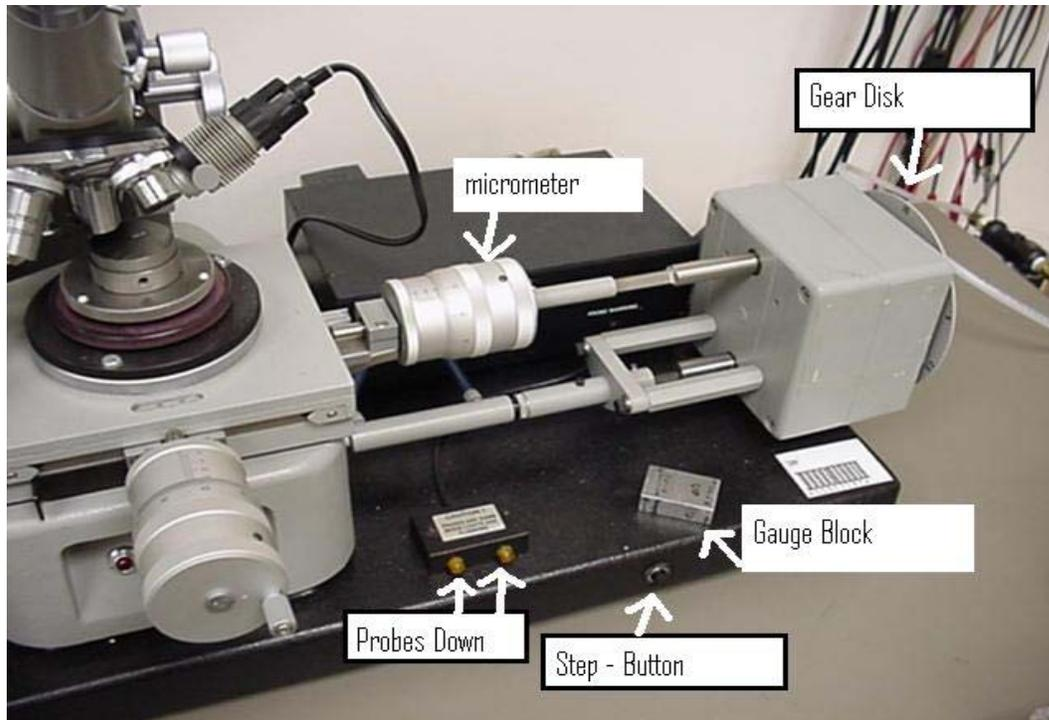

Fig. 1: SSM130 Spreading Resistance Measurement System.
1. Switch on the power-strip of the SSM-130. Check the air pressure gauge. On the front of the equipment are two small orange lights (see Fig. 1). These lights are blinking if the electrodes are down. Do not move the XY-stage if those lights are flashing as you might damage the electrodes. (If you have trouble with the lights, try turning the power switch off and quickly back on. On-Off-On quickly.)
4. On the far right side of the XY-stage is a gearbox (see Fig. 1). A metal disk with numbers on it. You can switch gear by pulling the knob out and rotating the disk. If you put the disk in between two numbers the instrument will not be in gear. Put the instrument in gear 10. This means that the distance between two steps will be 10 micron. Make sure that the system is in gear by pushing the black button near the front of the instrument a few times. Every time you push it, the micrometer will move 10 micron.